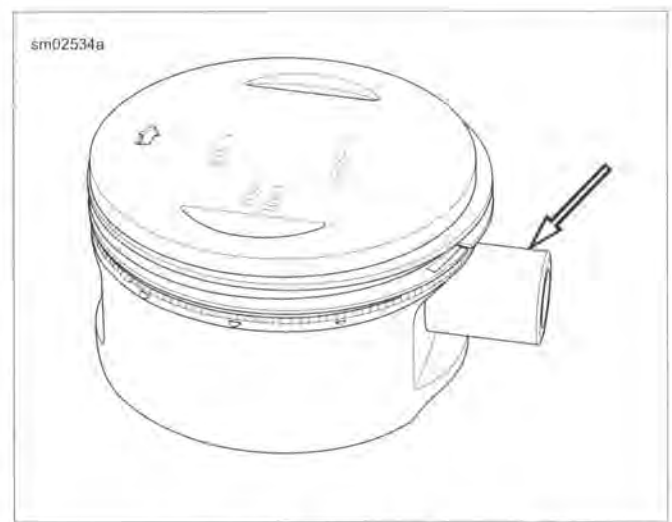

Figure 3-54. Piston Pin Clearance
2. See Figure 3-54. Check piston pin. Pin must slide without binding.